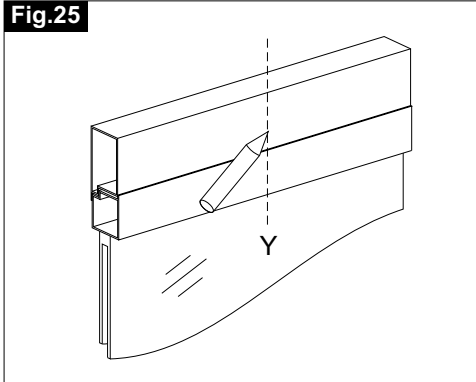

Fig.26
- 3) **Fig. 26**- Align to the centre line the window frame connection bracket using as reference the centre line indicator (**Ref.1**) located in the middle of the same, then mark the drilling points on the frame;